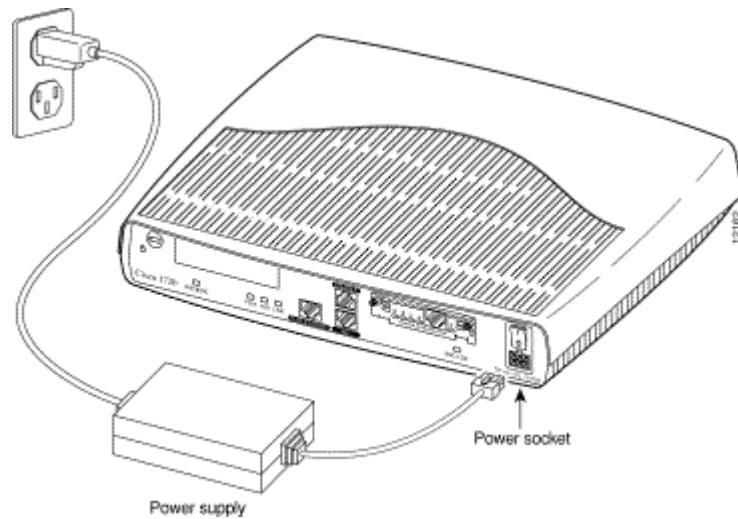

Figure 1
- Step 1** Connect the DC power cable (included with the router) from the power supply to the DC power input on the rear panel of the router. (Figure 1)